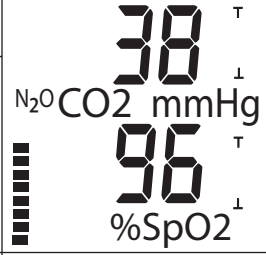

Figure 3.1: Setup menu
4. Waveform displays can be made longer or shorter through the **Setup/Volume, Expand Wave** menu item. [See fig. 3.1: Setup Menu]